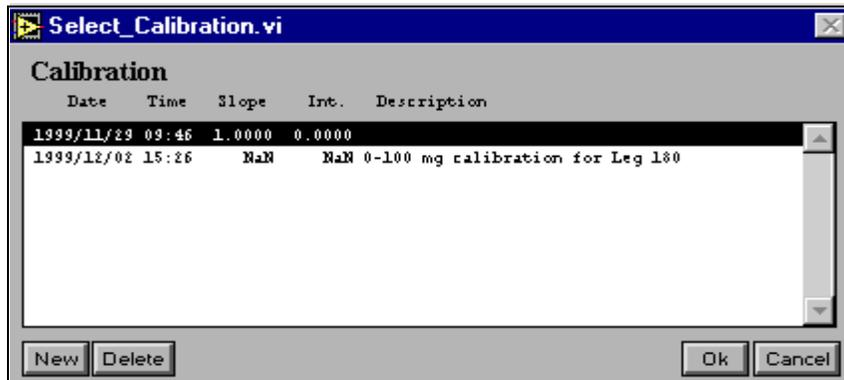

Figure 15. Select the calibration here.
2. Click on **Calibration** to open the "Select Calibration" window (see Figure 15).